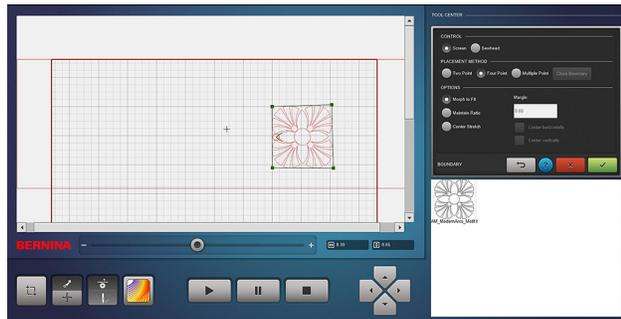

Fig. 39
- Maintaining ratio with or without (Fig. 39) a margin.